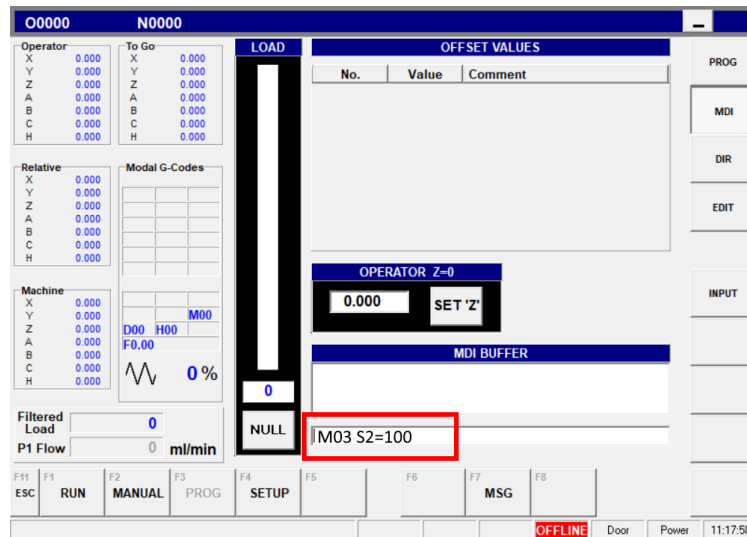

Figure 6 - MDI command line
11. Type “M03 S100” at the “MDI” command line and then press “Enter”. See *Figure 6 - MDI command line.*